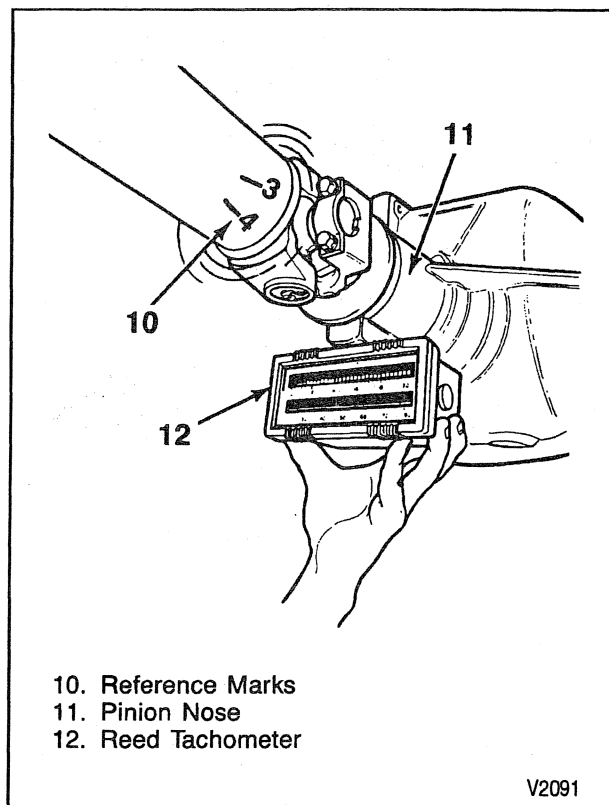

Figure 16—Propeller Shaft Reference Marks and Reed Tachometer Position
HOSE CLAMP METHOD (Figures 16, 17, and 18)
2. Mark and number propeller shaft at four points 90 degrees apart at the rear of the propeller shaft just forward of the balance weights (figure 16).
4. Run the vehicle through the speed range to 50-55 mph (81-89 km/h). Note the amount of imbalance felt at the front of axle housing or as indicated by a reed tachometer or the EVA sensor. Refer to figures 16 and 17.
2. Mark and number the propeller shaft at four points 90 degrees apart at the rear of the propeller shaft just forward of the balance weights, as shown in figure 16.